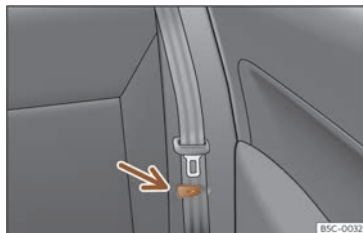

Fig. 89 Rear seat: clip to hold the seatbelt in place.
- Place the side seat belts in the trim clip >>> **Fig. 89**.